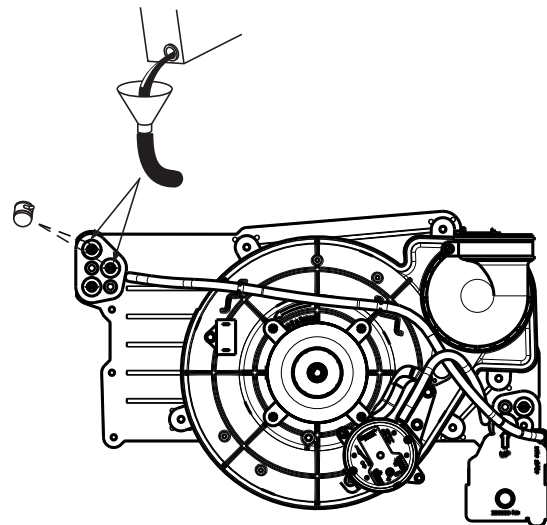

Fig. 60 - Priming Condensate Trap
4. Remove the top unused rubber plug from the port on the collector box opposite the condensate trap. See Fig. 60.
9. Remove the middle unused rubber plug from the port on the collector box opposite the condensate trap. See Fig. 60.